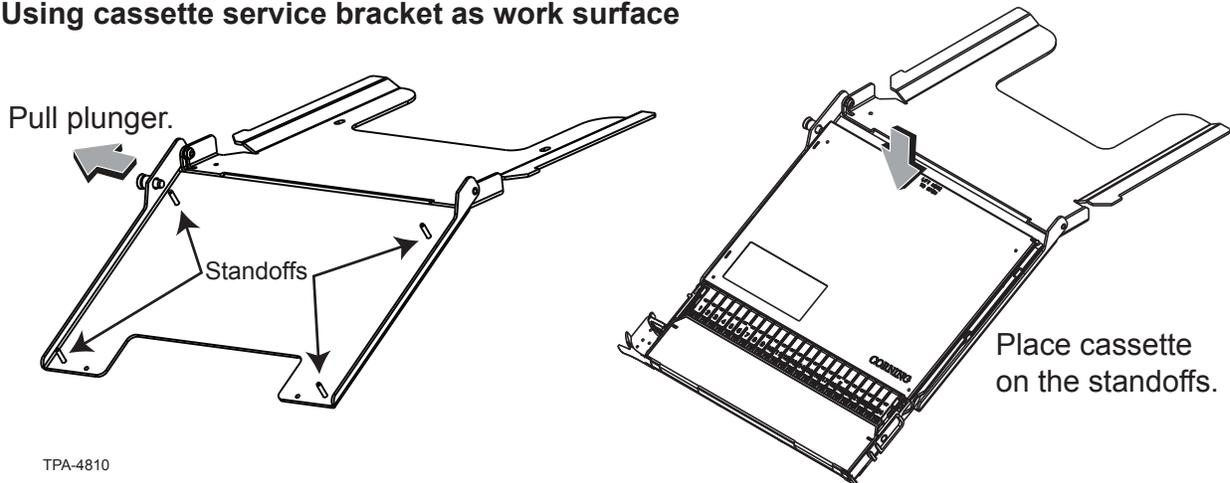

Figure 18
**NOTE:** The cassette service bracket (CTX-SERVICE-BKT), shown in Figure 18, facilitates fiber routing and splicing. Refer to SRP 003-961 for instructions on their use.
**Step 3:** If using the service bracket, place the cassette on it as shown in Figure 18. Then insert the service bracket into the slot vacated by the cassette being work on (Figure 19). Open the cover of the cassette and remove it, if desired, by bowing the hinged edge of the cover to release the hinge pins.